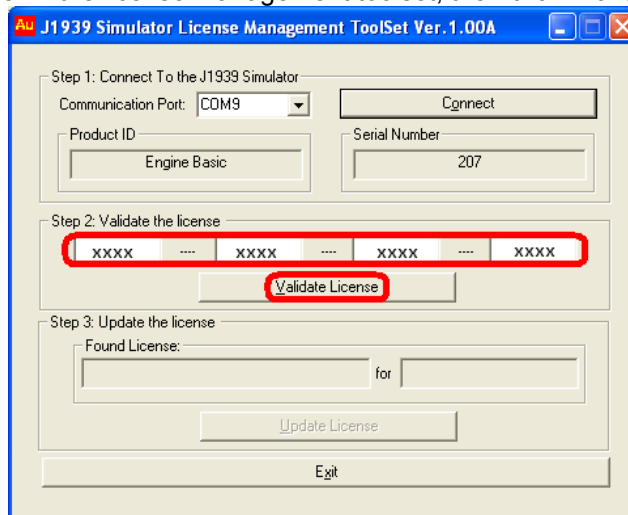

Figure B-11
2. Enter a validate license code in the license management toolset, then click "Validate license" button (Figure B-11)